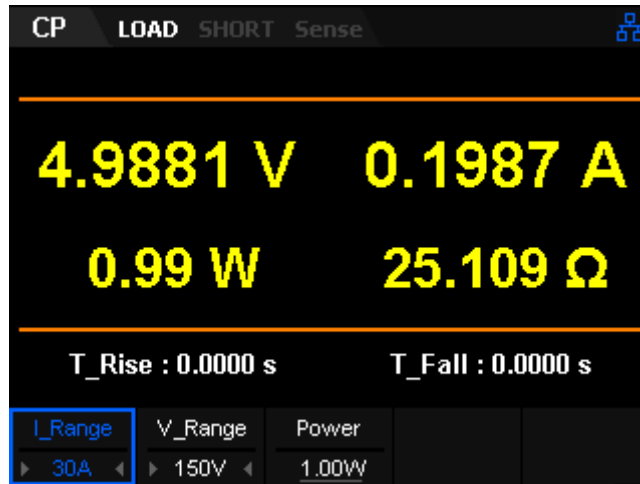

Figure 2-12 CP Mode Main Interface
2. Press **CP** to enter the main interface of CP mode, as shown in Figure 2-12.